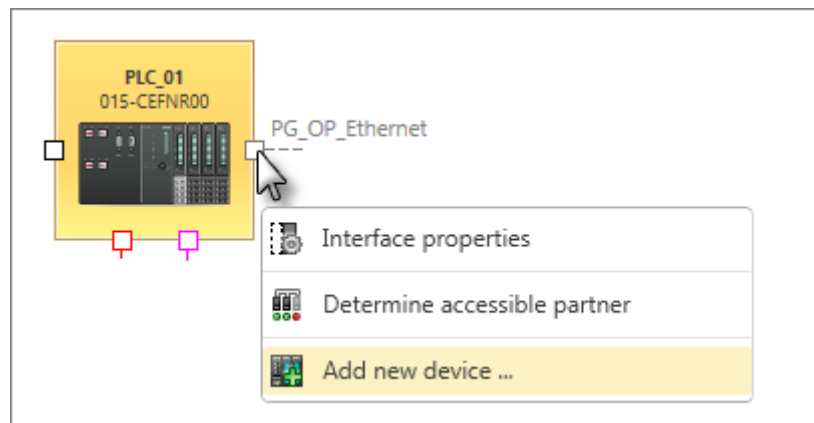

Fig. 60: Add HMI device on the connecting line
- **Editor "Devices and networking":** Right-click with the mouse button on the connecting line "PG_OP_Ethernet" and select 'Add new device'. Fig. 60